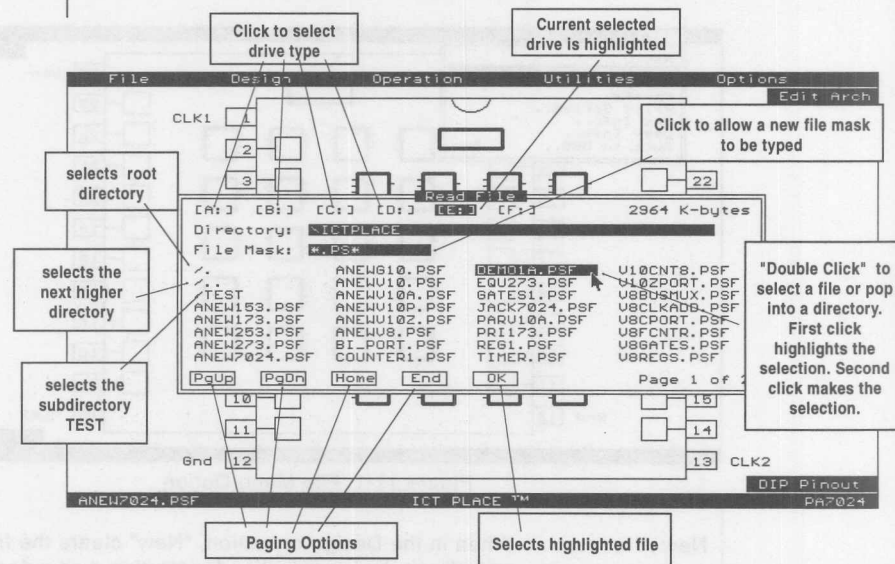

Figure 11-2. "Read" file selection screen
selected, the File selection window will appear (Figure 11-2):
- SaveAs** Allows a new file to be saved to the current directory and disk. Click an existing file to over-write or click [New] selector to enter a new file name (the "SaveAs" file selection screen is similar to that of the "Read" screen in Figure 11-2 with the exception of the [New] function).